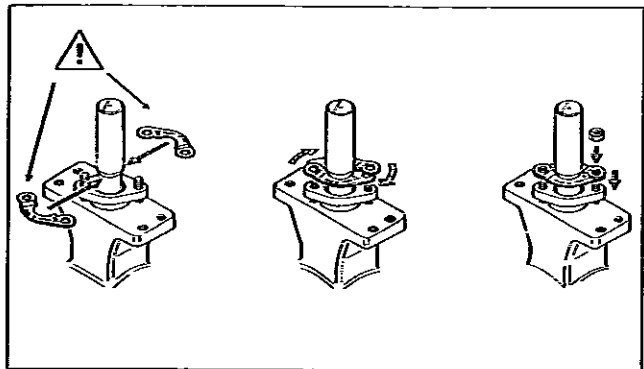

Fig. 10. Mounting the retaining plates
- Mount the retaining plates with the text UPSIDE on top (see Fig. 10).